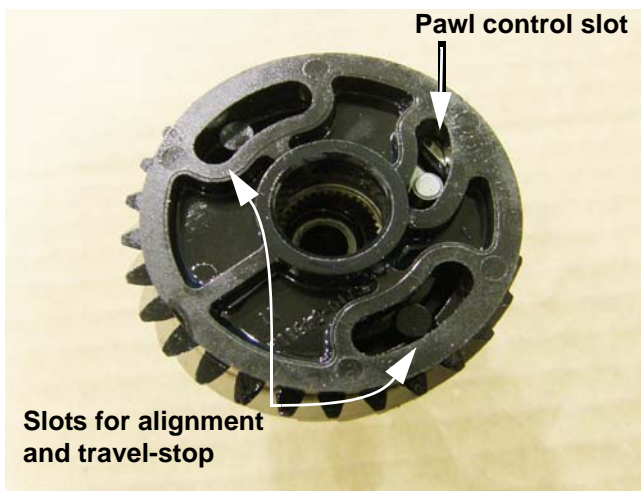

Figure 4.67
9. A drag plate with a set of slots rides against the other side of the helical gear: See Figure 4.67.